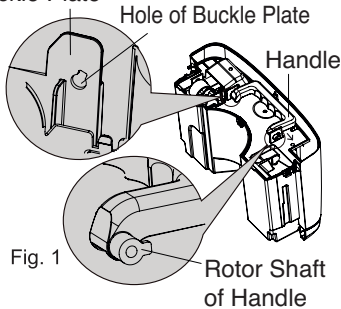

Fig. 1
(1) The rotor shaft on the handle toward the hole of buckle plate. Pull the bucket plate on the handle side in the direction indicated by the arrow. Remove the handle. (shown in Fig.1)